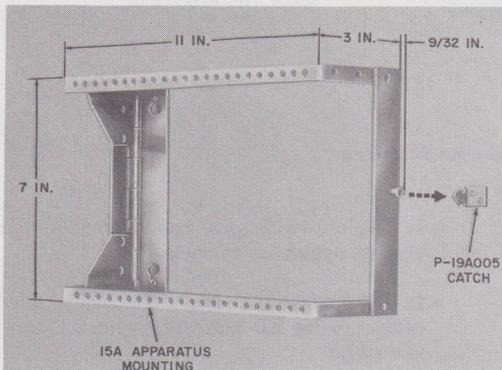

Fig. 2—15A-Apparatus Mounting
2.03 The 15A apparatus mounting (Fig. 2) is a hinged metal framework primarily used to mount panel-type 200-series KTUs. The 116A cover may be used to enclose one or two of these mountings on the 173A backboard. It is furnished with two P-206568 RHM screws and two P-113642 RHW screws for fastening P-19A005 catch and mounting to 173A backboard.